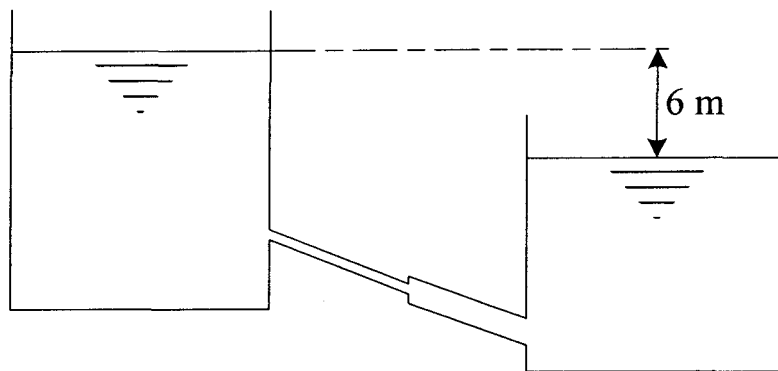

Figure Q5[b]
- [b] Two tanks are connected with the piping system with the first pipe having a diameter of 150 mm and 6 m-long, and the second pipe has a diameter of 225 mm with the length of 15 m Figure Q5[b]. The water surface in the first tank is 6 m above the second tank. Calculate the losses exist and determine the flow rate of flowing water. (Take the friction coefficient for both pipes as 0.01).